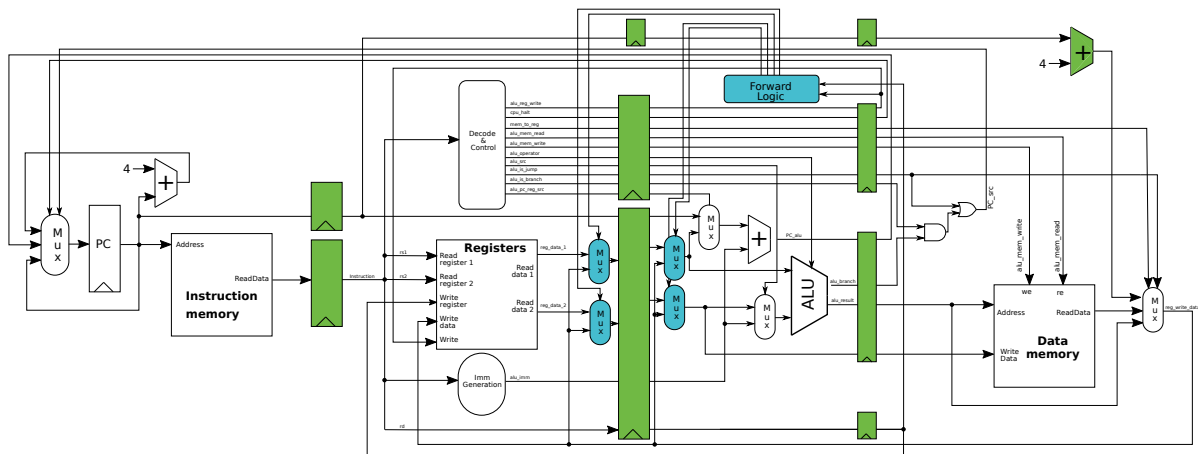

Figure 3.4: 4-stage pipelined processor.
In Figure 3.4, we introduce a pipeline register between the execution (EX) and memory/write-back (MEM) part of the processor. With this, MicroRISC-V transforms to a 4-stage processor.
To deal with that problem, you need to extend the forwarding logic and add a second pair of multiplexers in front of the ALU, which is indicated in Figure 3.4. Similar to the first implementation of the forwarding logic, we formalize the conditions for forwarding the result to one of the pipeline stages as follows: